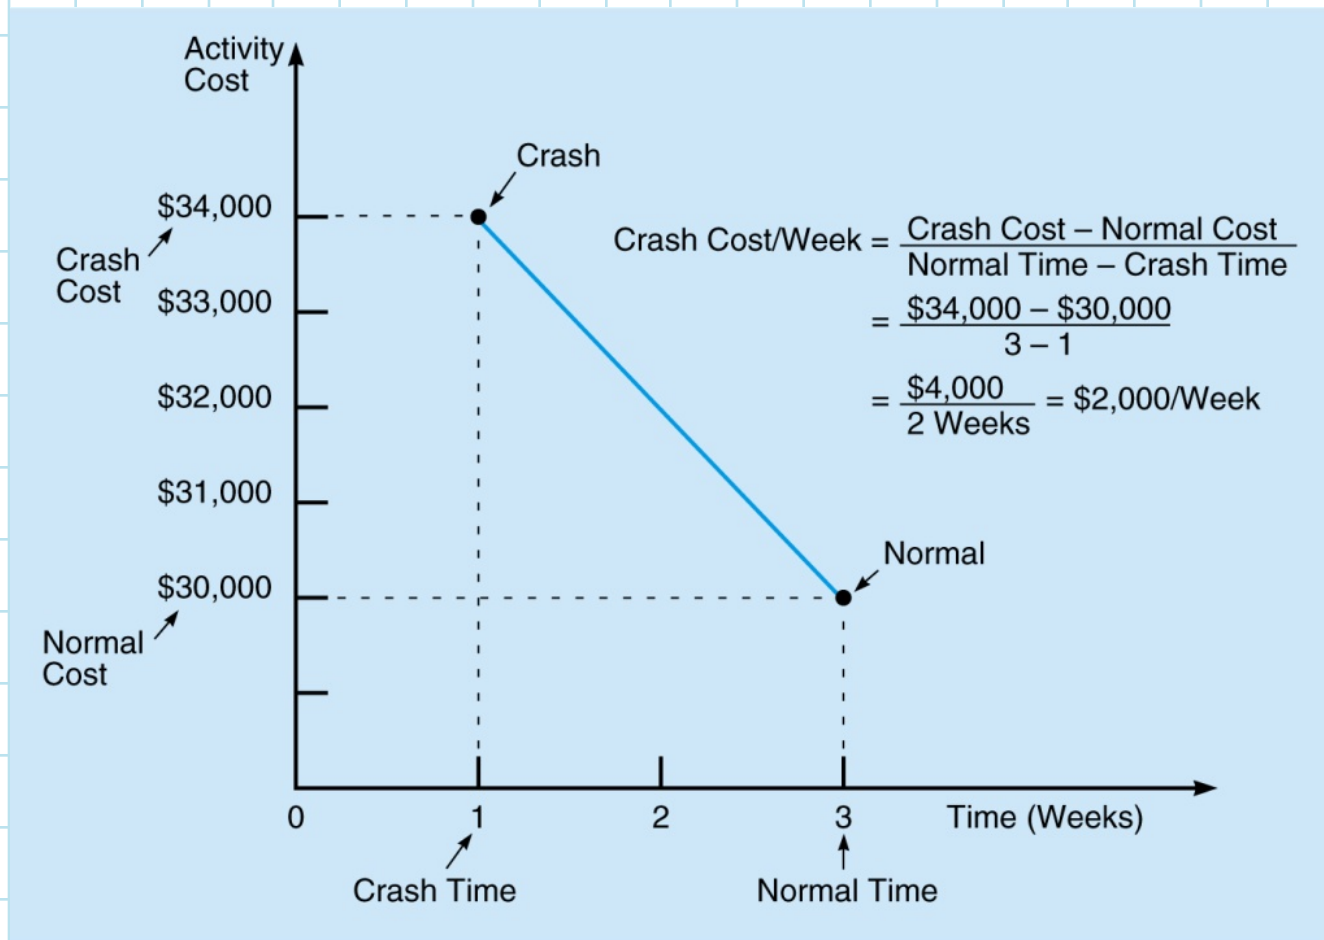

Figure 12.11
- **Crash costs are assumed to be linear and Figure 12.11 shows the crash cost for activity *B*.**